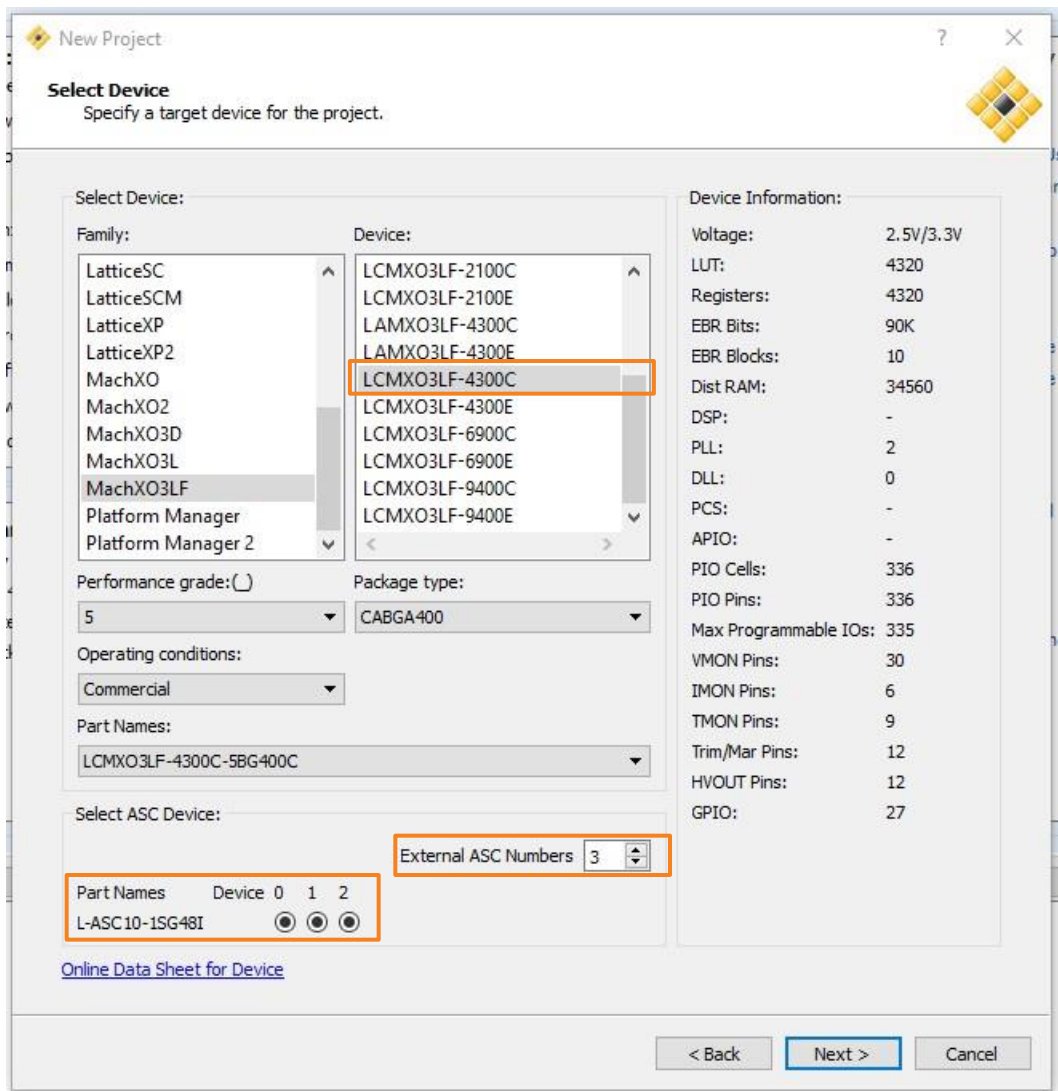

Figure 3.26. Lattice Diamond – New Platform Designer Project
2. Select the **MachXO3LF-4300C** (or similar) device and add three **L-ASC10** devices as shown in Figure 3.26.